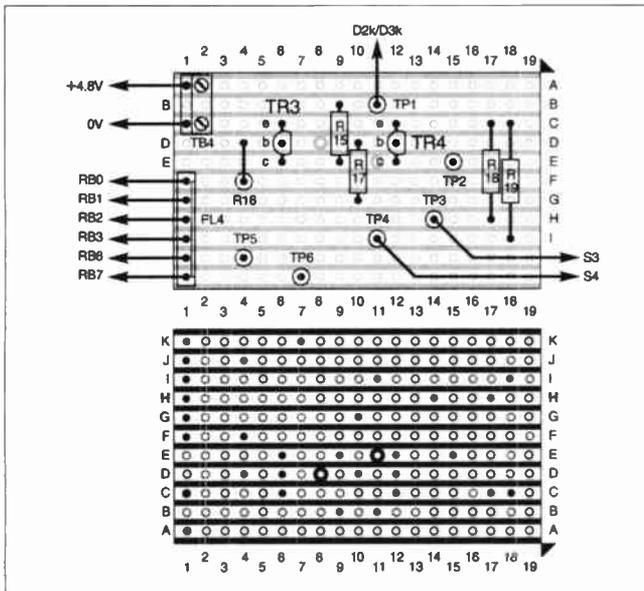

Fig. 3.10. Distribution stripboard component layout and wiring. The completed board is shown above right.
Build the board as shown in Fig.3.10. The positive supply at terminal TB4 does not directly connect to items on the board. Instead it acts as an anchor-point for the positive supply wire coming up from the Processor board (Part 1 Fig.6).
The common positive connecting wire begins at the positive screw terminal of the Distribution board (Fig. 3.10), and runs to the anode of D5 (green right flashing l.e.d.), S4, S3, anode of D3 (right white l.e.d.), LDR R3, anode of D2 (left white l.e.d.) and the anode of D4 (red left flashing l.e.d.).
Other connections to be made are: Distribution board, as in Fig. 3.10, Ultrasonic board transducer connections,
- A 6-way cable with a 6-way header socket at one end (to mate with PL4, Fig. 3.10) and an 8-way cable at the other (to mate with PL2 on the Processor board). The two additional lines on PL2 (RB4 and RB5) are connected to the 2-way cable from the Bumper board.